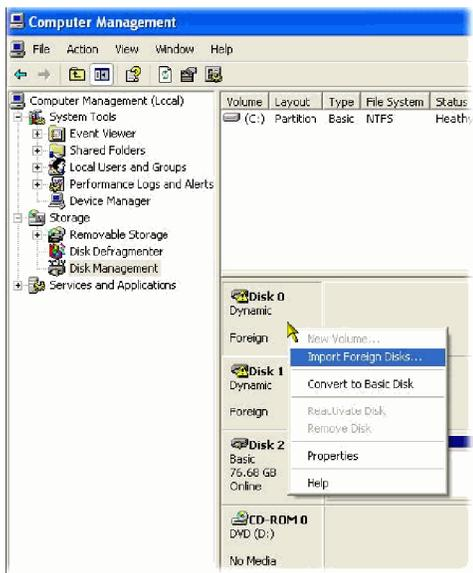

Figure 15: Select Import Foreign Disks...
2. Right-click on Disk 0 or Disk 1 and select **Import Foreign Disks...** from the shortcut menu (see Figure 15).